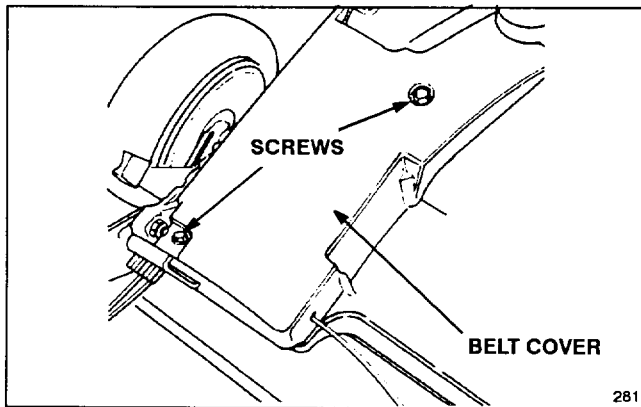

Figure 1
3. **SELF-PROPELLED MODELS**—Remove screws securing belt cover to mower deck (Fig. 1). Save screws and belt cover for reassembly.